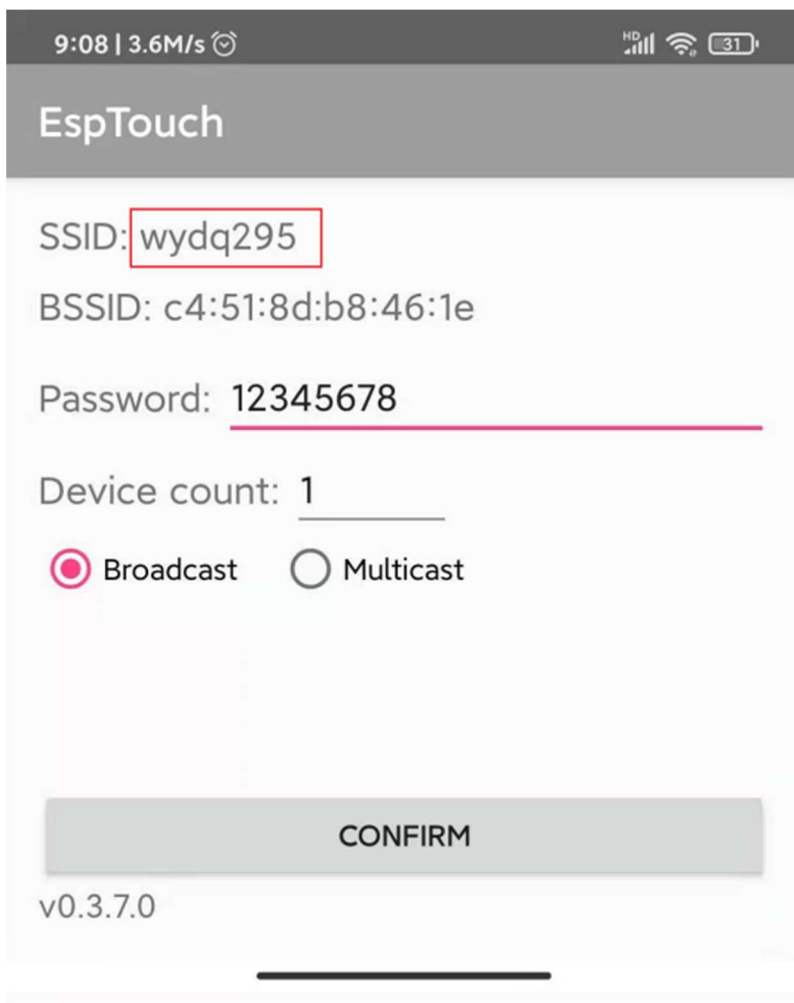

Fig. 6-3 APP interface
- e) Open the esptouch APP, enter the password for the WiFi network name (shown as Fig. 6-3), and keep the phone in the esptouch APP, do not exit.